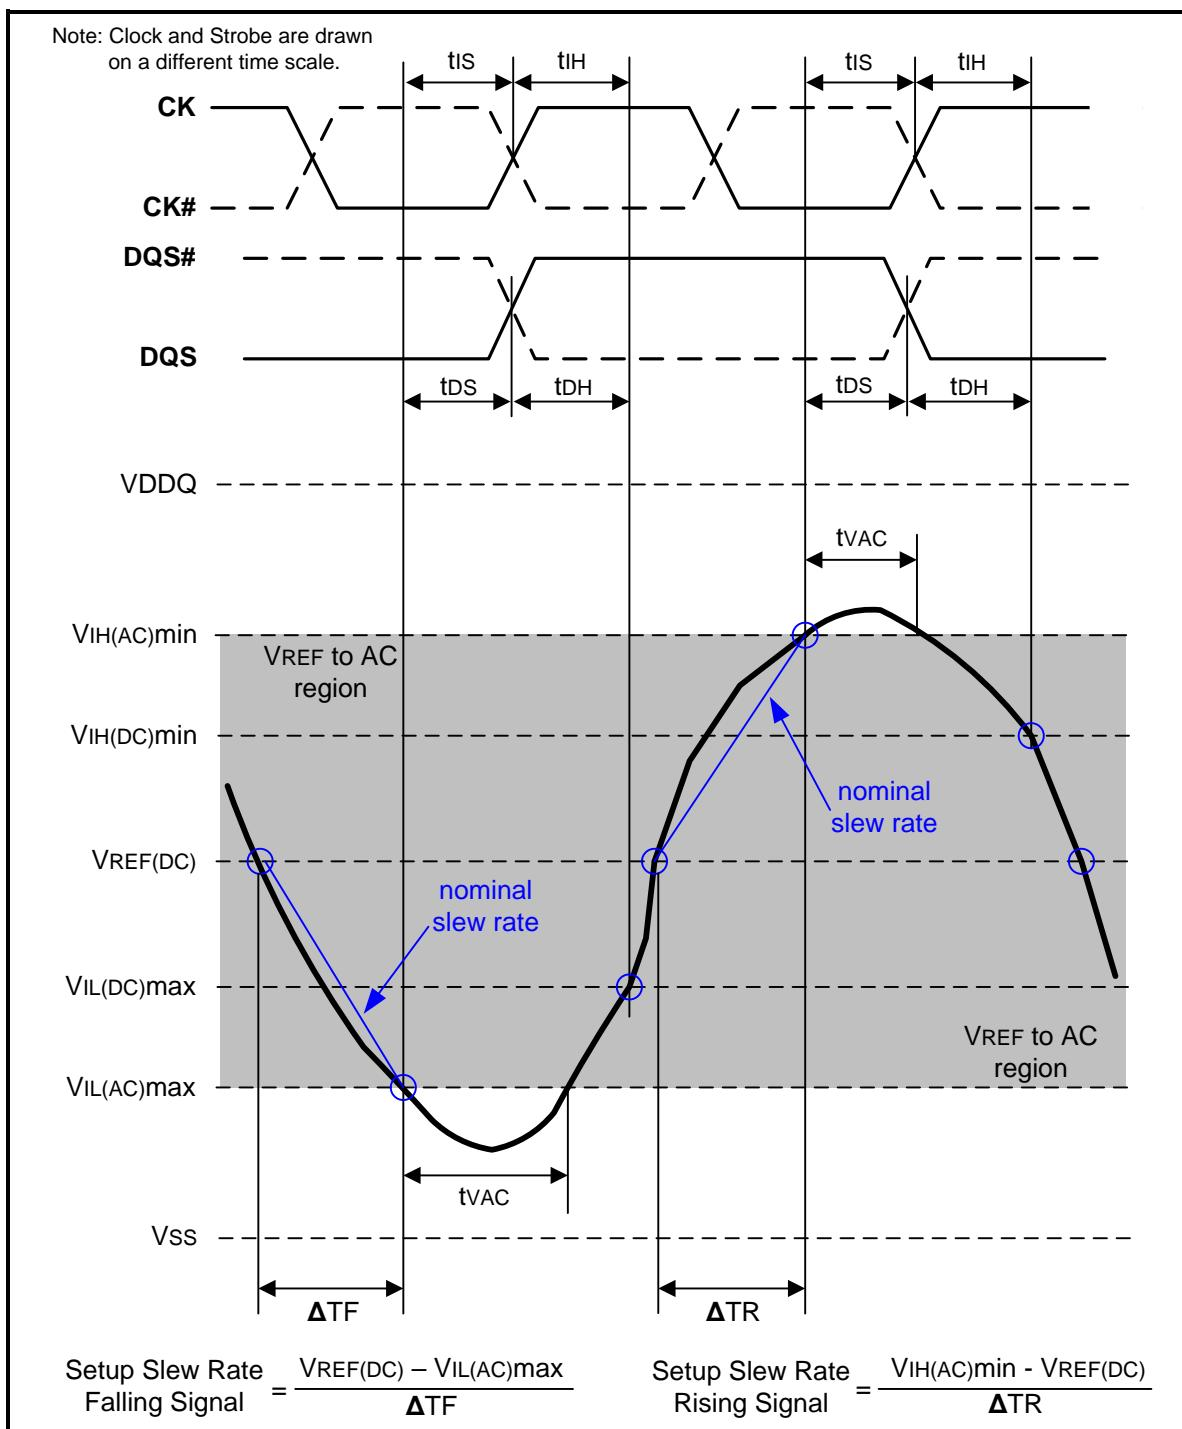
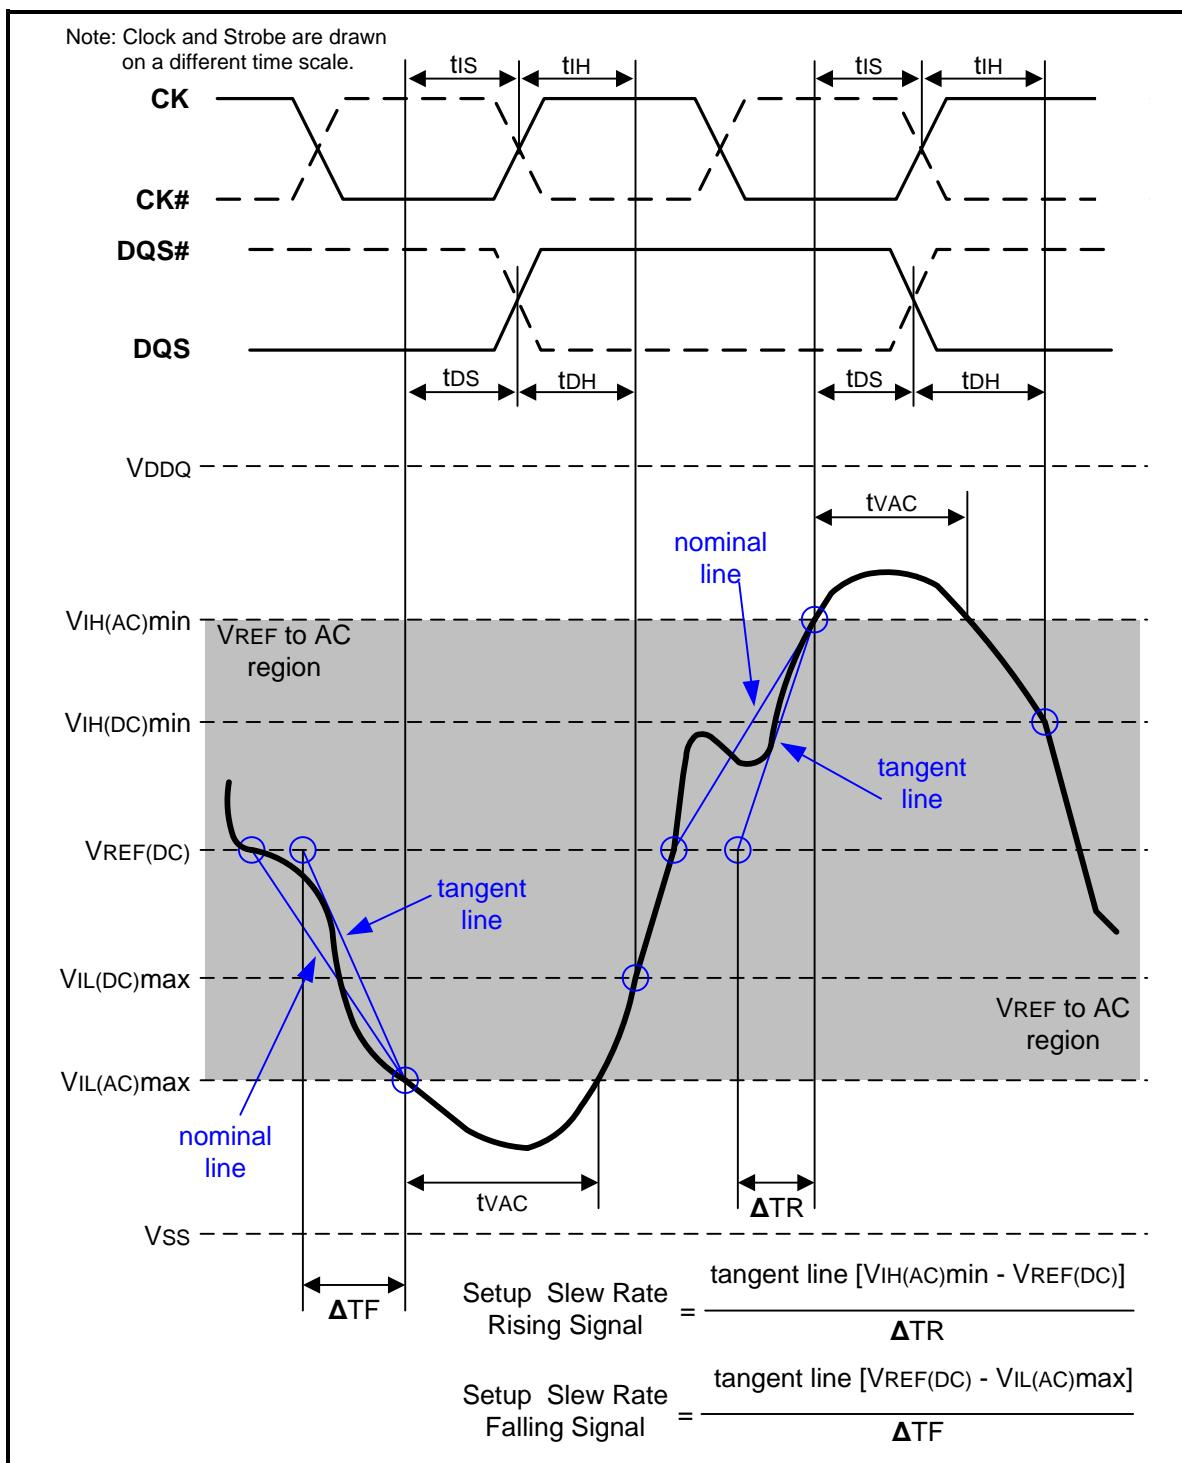

Figure 107 – Illustration of nominal slew rate and tVAC for setup time tds (for DQ with respect to strobe) and tis (for ADD/CMD with respect to clock)
Figure 109 – Illustration of tangent line for setup time  $t_{DS}$  (for DQ with respect to strobe) and  $t_{IS}$  (for ADD/CMD with respect to clock)
Setup (tIS) nominal slew rate for a rising signal is defined as the slew rate between the last crossing of VREF(DC) and the first crossing of VIH(AC)min. Setup (tIS) nominal slew rate for a falling signal is defined as the slew rate between the last crossing of VREF(DC) and the first crossing of VIL(AC)max. If the actual signal is always earlier than the nominal slew rate line between shaded 'VREF(DC) to AC region', use nominal slew rate for derating value (see Figure 107). If the actual signal is later than the nominal slew rate line anywhere between shaded 'VREF(DC) to AC region', the slew rate of a tangent line to the actual signal from the AC level to VREF(DC) level is used for derating value (see Figure 109).
Setup (tDS) nominal slew rate for a rising signal is defined as the slew rate between the last crossing of VREF(DC) and the first crossing of VIH(AC)min. Setup (tDS) nominal slew rate for a falling signal is defined as the slew rate between the last crossing of VREF(DC) and the first crossing of VIL(AC)max (see Figure 107). If the actual signal is always earlier than the nominal slew rate line between shaded 'VREF(DC) to AC region', use nominal slew rate for derating value. If the actual signal is later than the nominal slew rate line anywhere between shaded 'VREF(DC) to AC region', the slew rate of a tangent line to the actual signal from the AC level to VREF(DC) level is used for derating value (see Figure 109).